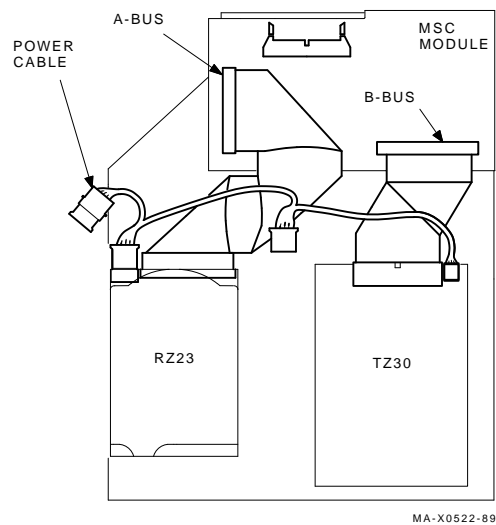

Figure 4-6 Connecting the TZ30 Data and Power Cables
3. Connect the data and power cables to the TZ30 and to the MSC module (Figure 4-6).